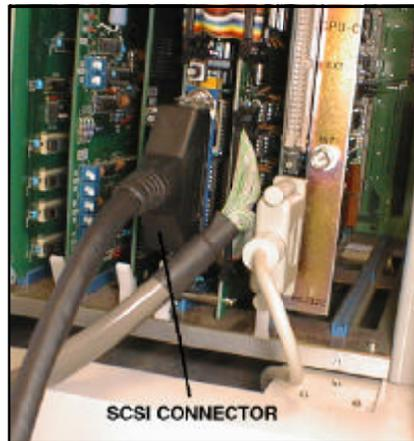

Figure 5-9. SCSI cable to controller.
- 3) Using the accessory SCSI cable, attach the computer SCSI port to the SCSI connector which is located inside the controller front door, Figure 5-9.